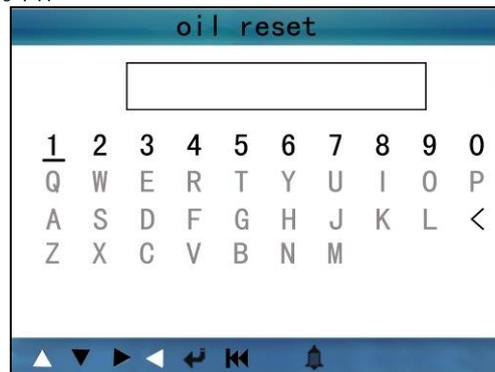

Figure 4-7
6) Press [, input engine oil life value (0%-100%), as shown in Figure 4-7: